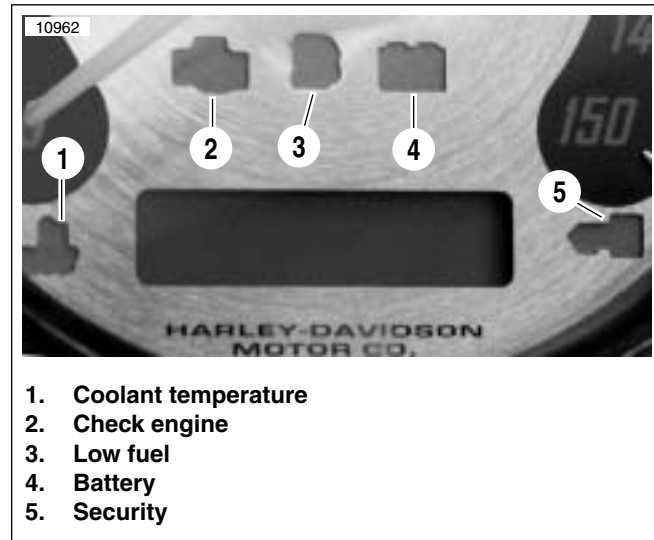

Figure 8-47. Speedometer
- For a quick check of speedometer function, a “wow” test can be performed. Press and hold odometer reset switch then turn ignition switch ON. Release reset switch. See Figure 8-47. Background lighting should illuminate, gauge needles should sweep their full range of motion, and indicator lamps [battery, coolant, security, low fuel, check engine and cruise] should illuminate. Some lamps may illuminate even though they do not apply to the vehicle. For example, the cruise lamp may illuminate although this feature does not apply to VRSCSE2 models.